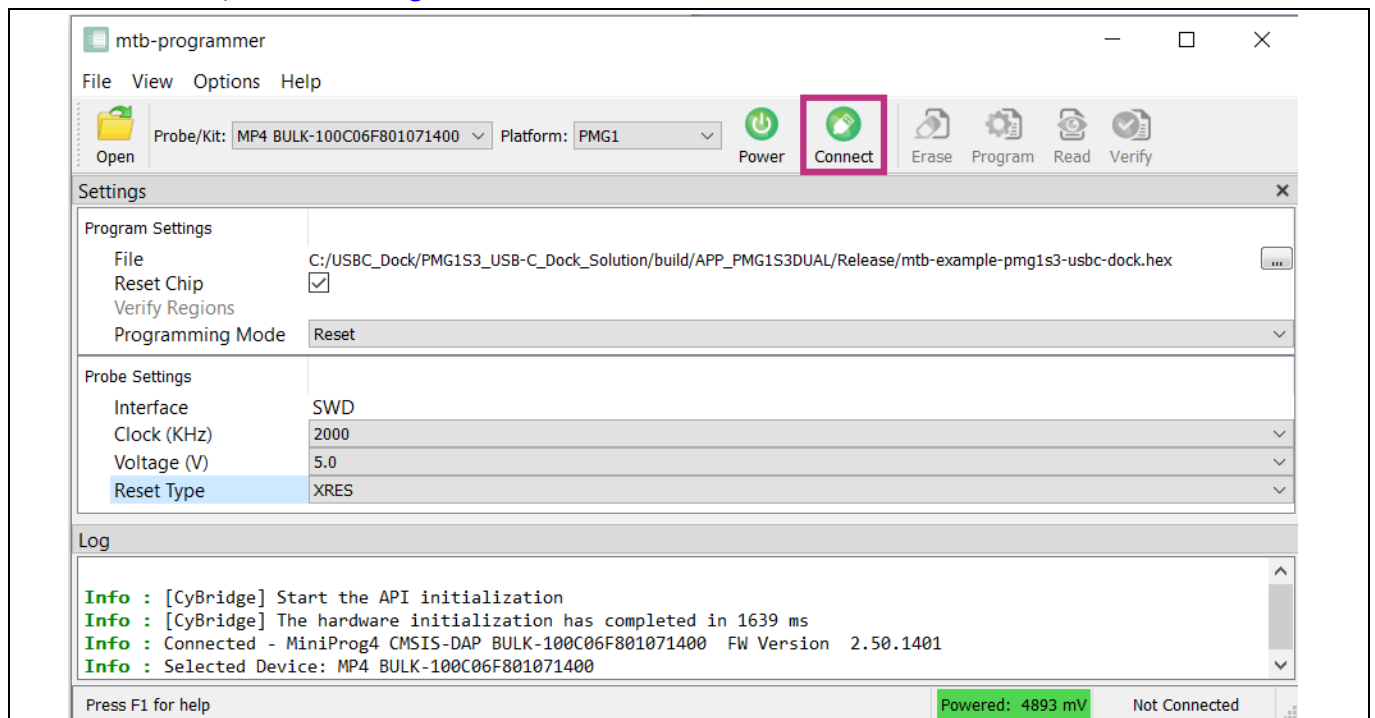

Figure 11 Connecting to target
6. Click **Connect**, as shown in Figure 11.